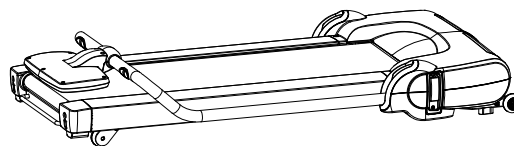

FIG 1.
1. Before moving the treadmill follow the **FOLDING INSTRUCTIONS** to fold it down to the position shown in FIG 1.